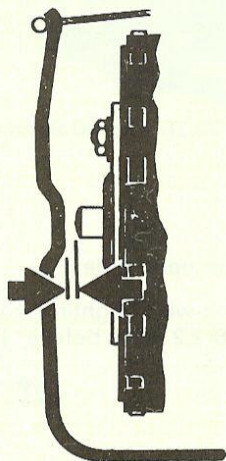

fig. 1
- pull inner cable through handle until distance between arrows in fig. 1 is approx. 0.5-1 mm.